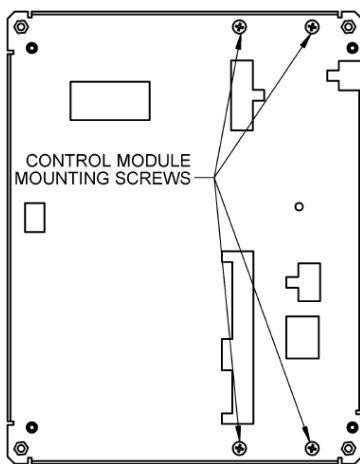

Figure 1 Removing the old controller
7. Remove the four Phillips screws securing the back plate of the IBC controller to the boiler cabinet (see figure 1).